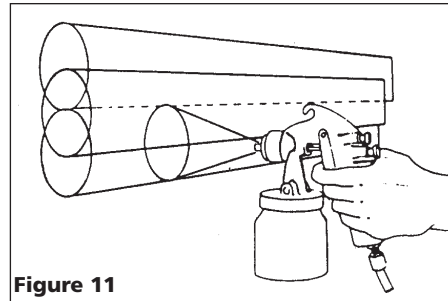

Figure 11
5. Overlap strokes just enough to obtain an even coat (See Figure 11).